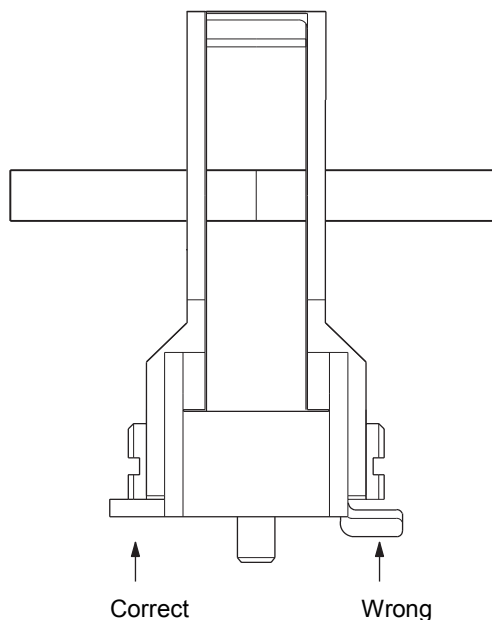
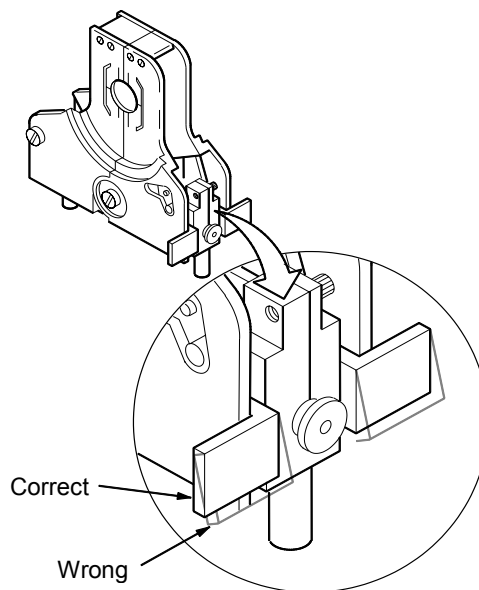

Figure 15 Checking the Weld Joint and Latch Position (Series 4 Fixture)
Figure 16 Proper Latch Position (Series 8 Fixture)
3. Insert the first work piece, butting the weld end against the centering gage surface. Close and latch that side of the fixture. Make sure that the latch is fully closed against the body of the fixture. See Figure 15.
6. Check the weld joint for proper fit and alignment. See Figure 15. Verify that the latches are fully closed. See Figure 15 (Series 4) or Figure 16 (Series 8).